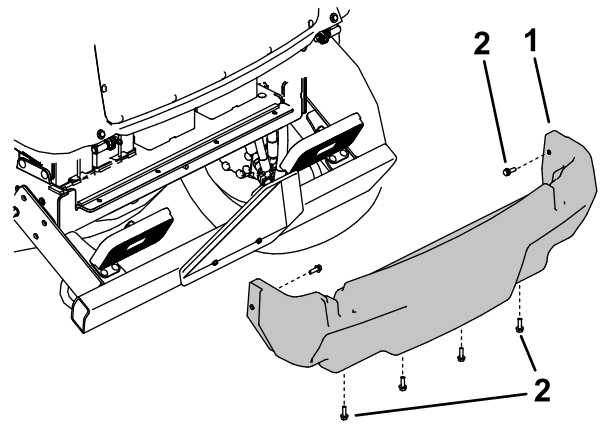

Figure 114
5. Remove the 6 flange screws securing rear shroud to the frame and remove the rear shroud (Figure 114).
4. Install the rear shroud (Figure 114).